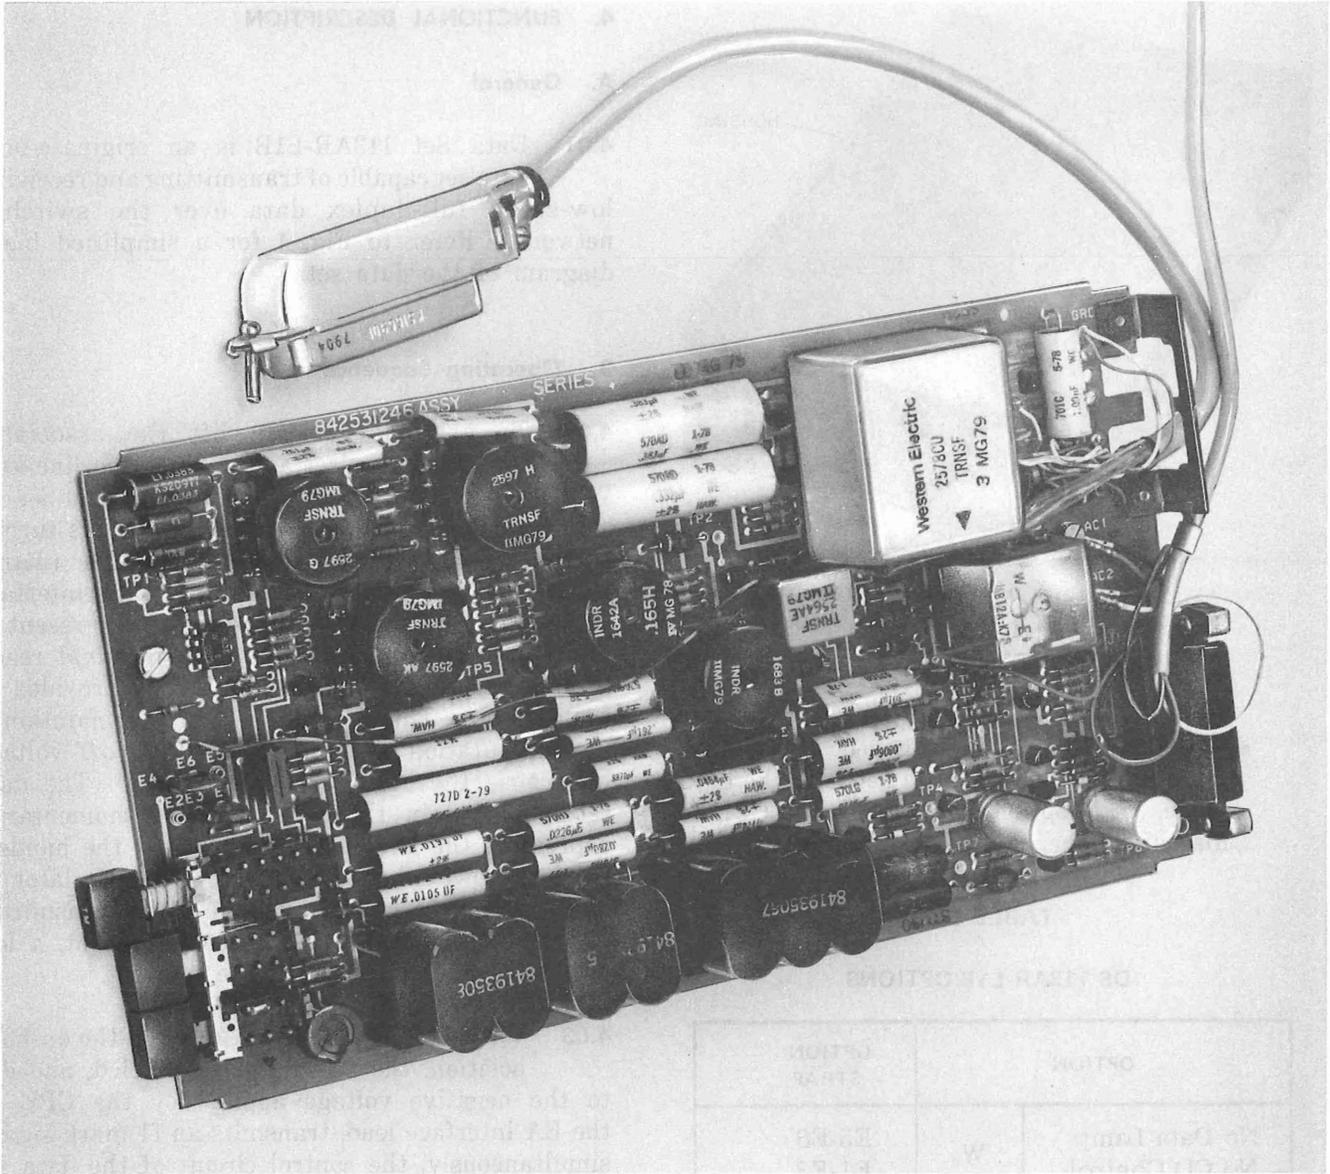

Fig. 2—DS 113AR-L1B Circuit Pack
2.02 The printed circuit pack (Fig. 2) is 10.26 inches long, 5.5 inches wide, and 1.5 inches high. The circuit pack weighs approximately 2 pounds.